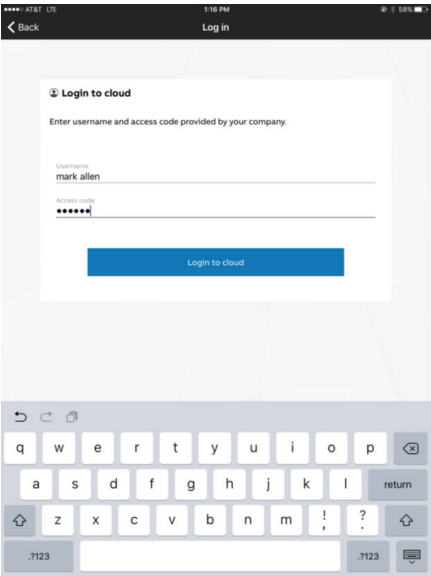

Figure 11
- If you've been working offline, you'll be prompted to log in with your user name and access code (Figure 11)